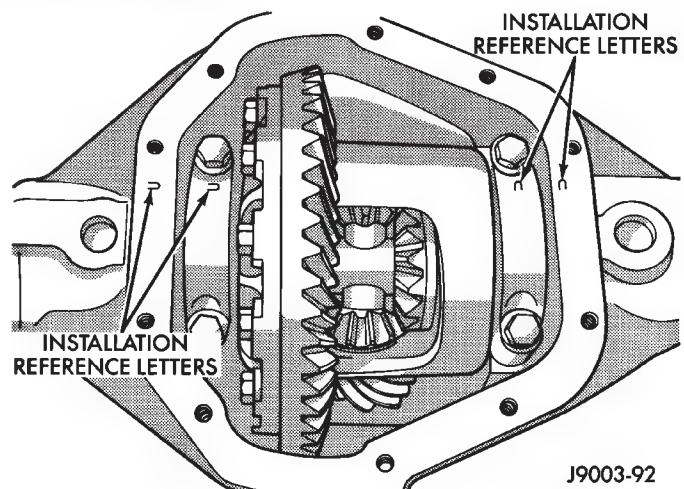
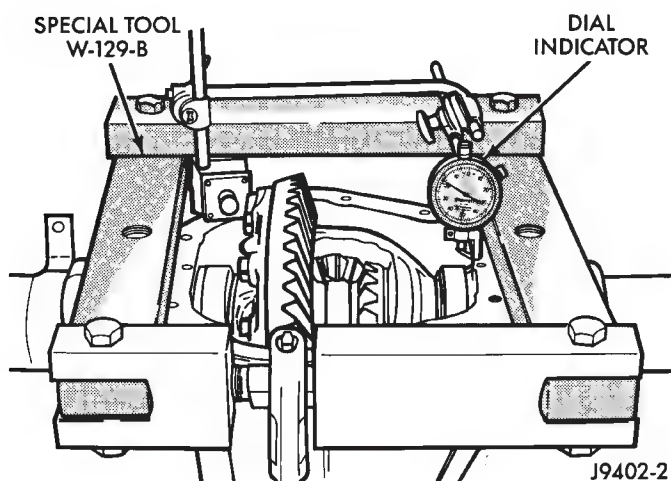
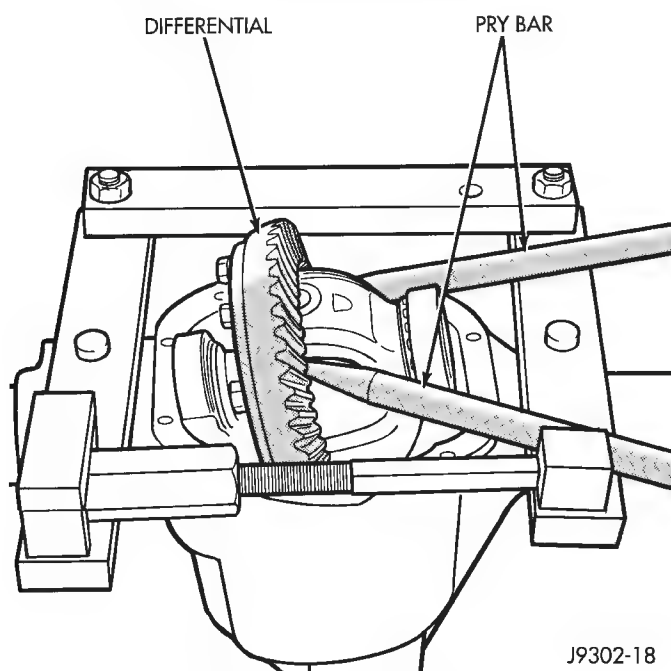

Fig. 22 Bearing Cap Identification
Fig. 23 Spread Differential Housing
Fig. 24 Differential Removal
(1) Note the installation reference letters stamped on the bearing caps and housing machined sealing surface (Fig. 22).
(2) Remove the differential bearing caps.
(3) Position Spreader W-129-B with the tool dowel pins seated in the locating holes (Fig. 23). Install the holddown clamps and tighten the tool turnbuckle finger-tight.
(4) Install a pilot stud at the left side of the differential housing. Attach Dial Indicator to housing pilot stud. Load the indicator plunger against the opposite side of the housing (Fig. 23) and zero the indicator.
(5) Separate the housing enough to remove the case from the housing. Measure the distance with the dial indicator (Fig. 23).
(6) Remove the dial indicator.
(7) Pry the differential case loose from the housing. To prevent damage, pivot on housing with the end of the pry bar against spreader (Fig. 24).